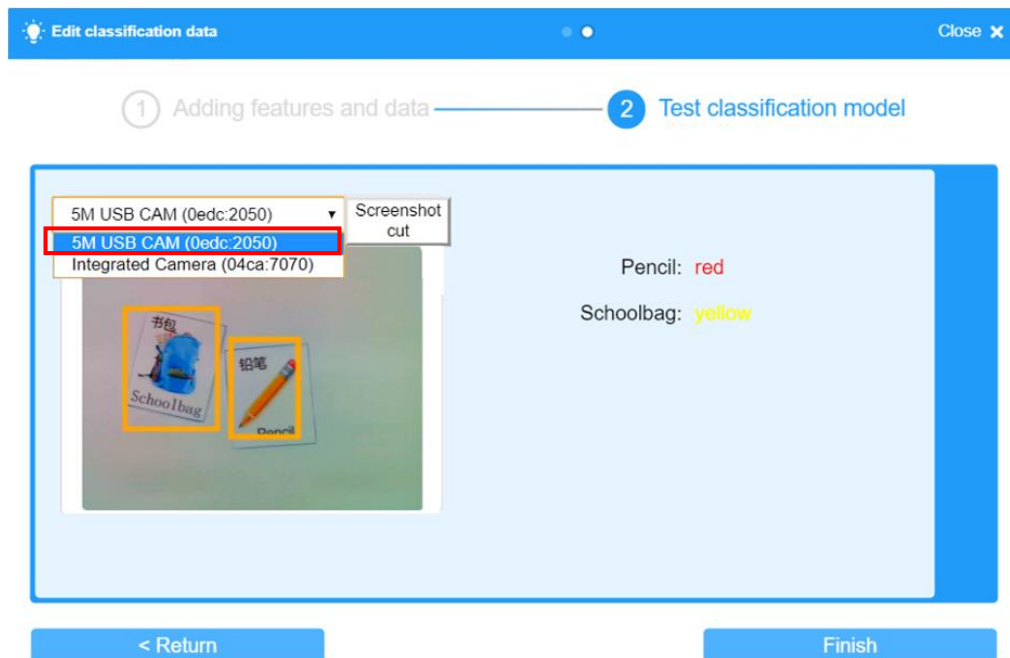

Figure 4.8 Getting the test picture from the camera
Step 10: Test the classification model. Click the camera on the robotic arms, and use it to get the test data, as shown in Figure 4.8.